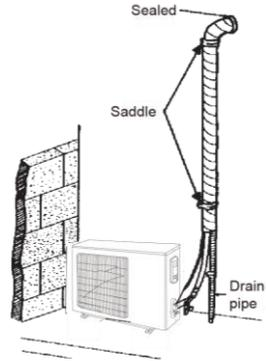

Fig. 4.17
- (1) If the outdoor unit is installed lower than the indoor unit (See Fig. 4.17)